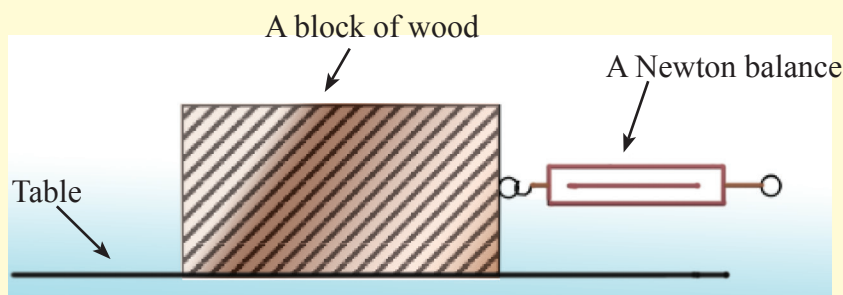

Figure 5.2 – Finding the maximum frictional force exerted on the object
- Place the block of wood on a horizontal table and pull the block as shown in Figure 5.2, with a very small force. You would be able to read the magnitude of the applied force from the Newton balance. Initially, the force would be insufficient to move the block.